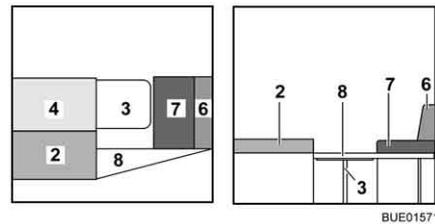

Fig. 159 During conversion
- Place the back cushion (Fig. 159,4) next to the seat cushion (Fig. 159,2).
- Unfold the support of the bed extension (Fig. 159,8) and hang the bed extension into the holders on the bench seats.